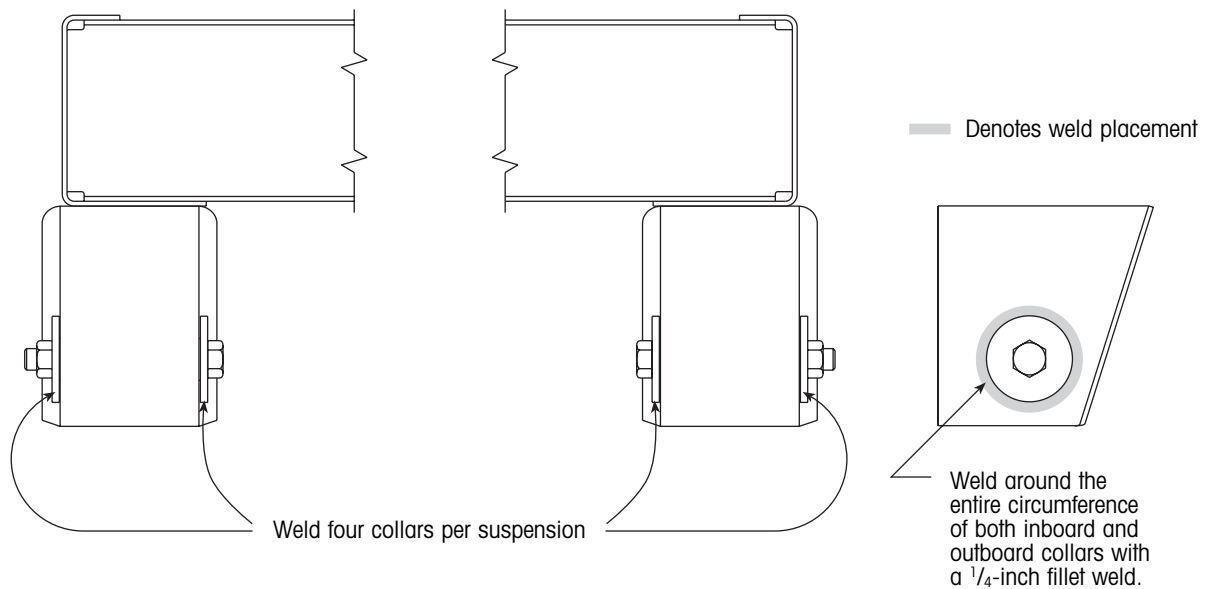

Figure 24. Welding locations on welded collars
6. Weld around the inboard and outboard collars on each end of the axle with a 1/4-inch fillet weld (figure 24).